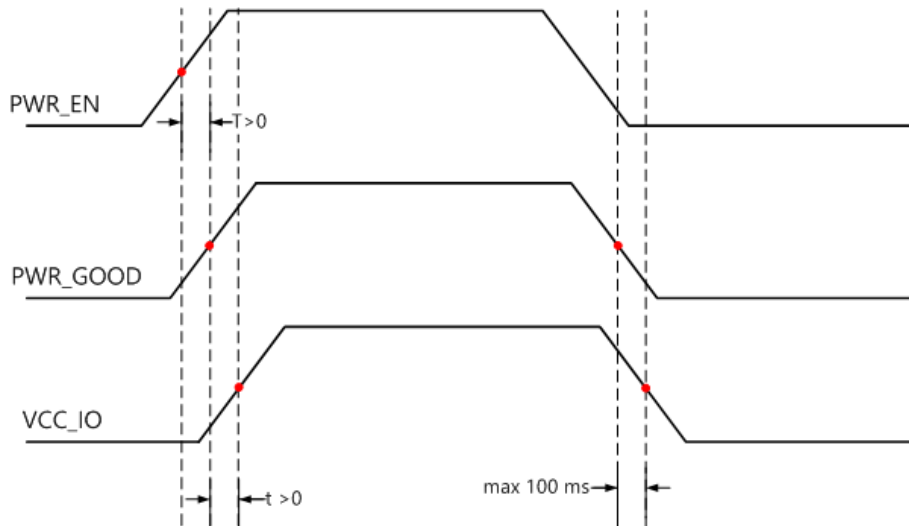

Figure 13: Power-Up Sequence - VCC\_IO in Relation with PWR\_GOOD and PWR\_EN Signals
*Do not power the VCC\_IO pins when PWR\_GOOD and PWR\_EN signals are not active. If the module is not powered, you need to make sure that the VCC\_IO voltages are disabled (for example, by using a switch on the base board, which uses PWR\_GOOD as enable signal). Figure 13 illustrates the VCC\_IO power requirements.*